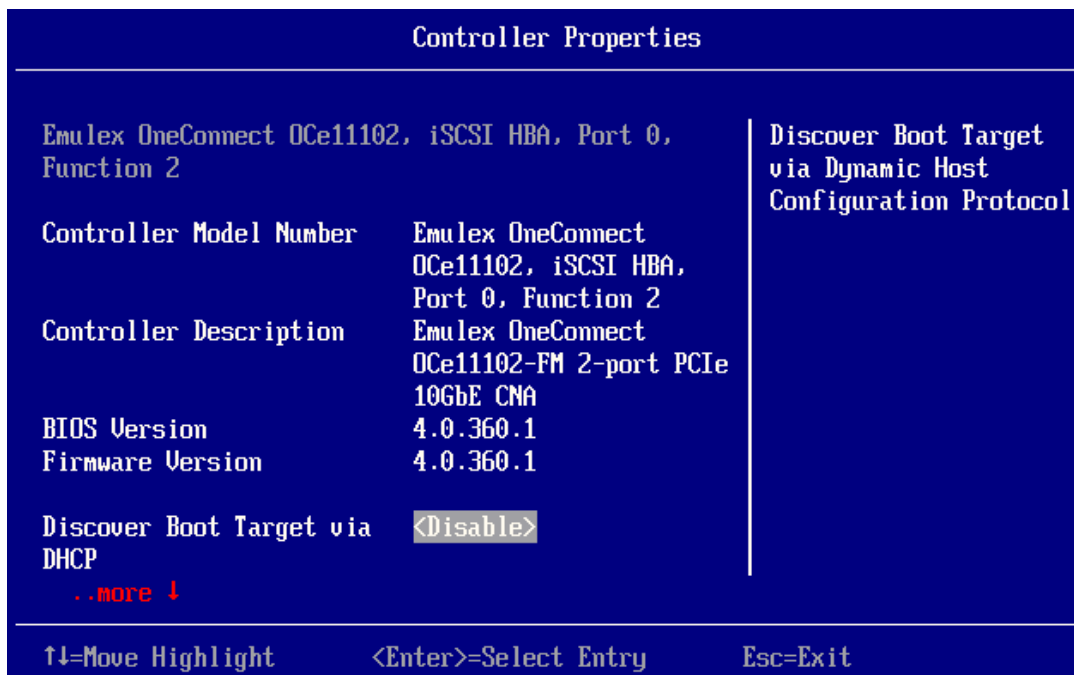

Figure 11-5 Controller Properties Screen
1. On the Controller Properties screen (Figure 11-5), set **Discover Boot Target via DHCP** to **<Enable>** and press **<Enter>**.
1. On the Controller Properties screen (Figure 11-5), set **Discover Boot Target via DHCP** to **<Disable>** and press **<Enter>**.